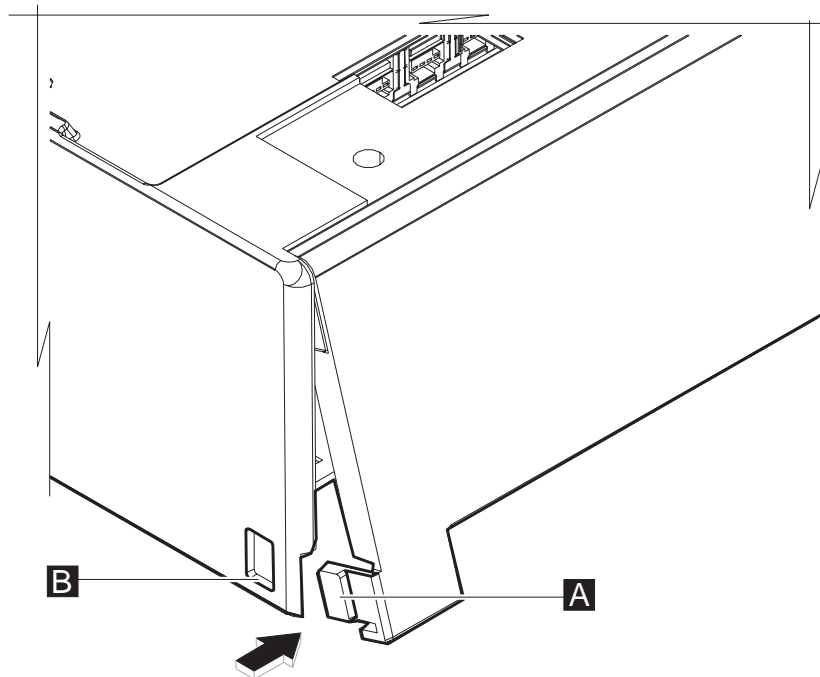

Figure 26. View of rear door lower tabs
3. Press and insert the lower tabs (**A** in Figure 26) into the slots (**B**) to lock in place.